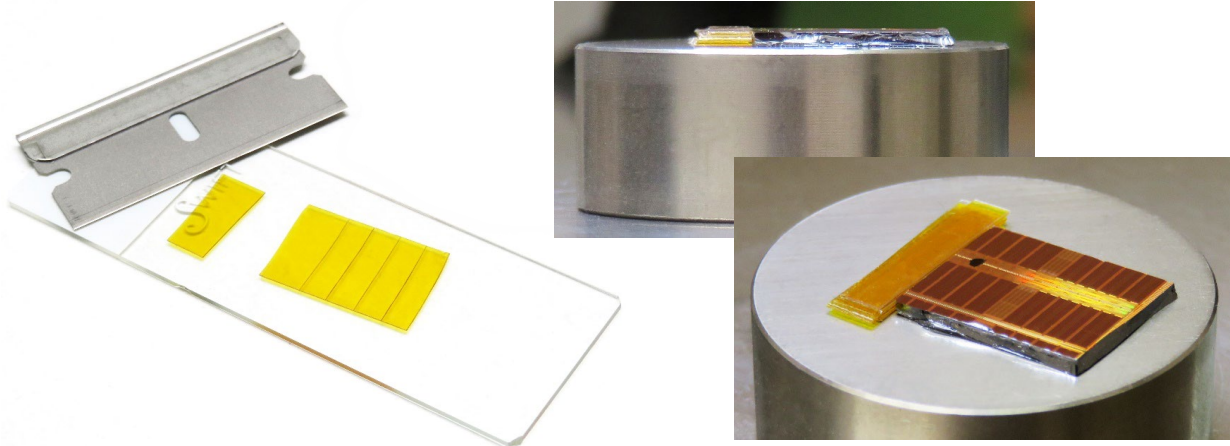

Figure 5: Using Layers of Kapton® Tape to Protect the Die Edge
6. If the ROI is near the edge of the die, a sacrificial die or layers of tape can be used to keep the dimple from rolling off the edge of the sample (*Figure 5*). The sacrificial material should abut the sample closely and be of the same height. If sacrificial material is needed, it should be placed before dimpling begins. When handling wafer material rather than a singulated die, you may simply cleave a sample larger than the die itself to ensure the ROI is not at the sample edge.